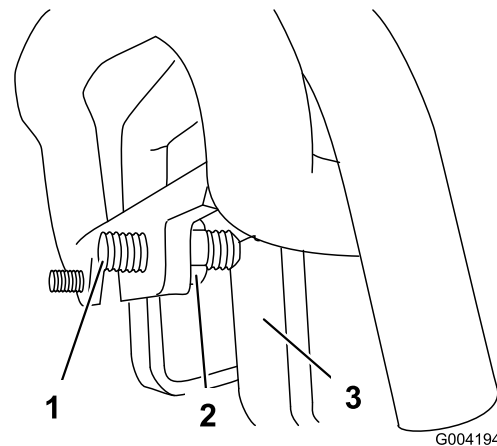

Figure 55
3. If the traction unit veers to the **left**, loosen the **right** jam nut and adjust the tracking set screw on the front of the traction control (Figure 55).
4. If the traction unit veers to the **right**, loosen the **left** jam nut and adjust the tracking set screw on the front of the traction control (Figure 55).